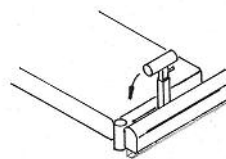

Fig. 2
1. Pivot the T-Bar down until it is in full horizontal position. (Fig. 2)